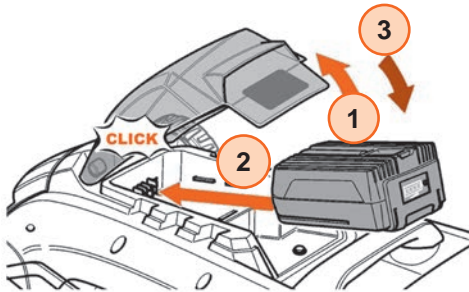

Figure 10
1. Open the battery cover ① (see Figure 10). Press the charged battery into the power tool until it clicks into place ②. Close the battery cover ③.